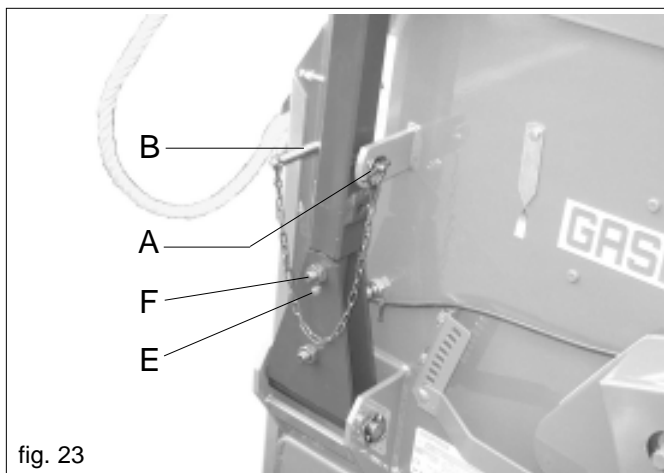
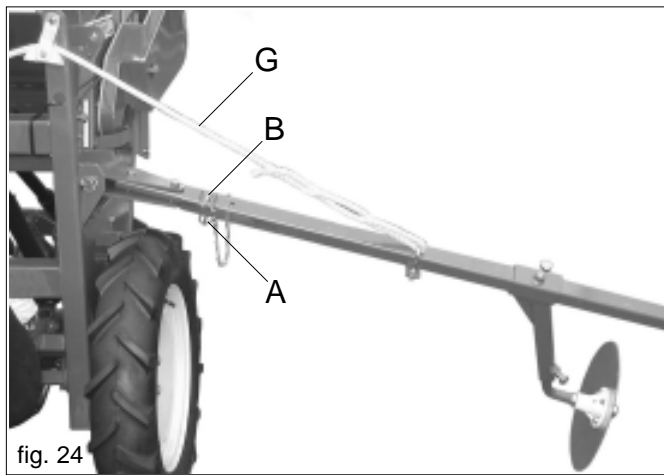

fig. 23
fig. 24
- 1) Unlatch the split pin (A) and remove the bolt (B) (Fig. 23).
- 2) Lower the row marker arm by rotating the left arm clockwise and the right arm counter-clockwise about 60° and lock it in position by placing the bolt (B) in the lower slot as shown in Figure 24.
The row marker arm can also be equipped with a safety device that protects it against hits from obstructions that could damage it. To do this, remove screw M12 (F) and replace it with an M5 screw (E) as shown in Figure 23. With the M5 screw in place, if an obstacle is encountered, the screw is sheared so the arm can rotate backwards without being damaged.
Adjust the length of the cables so that during work they stay taut (G Fig. 24). Lock the row marker disk arms in a vertical position during transport by using the pegs (Fig. 23 A, B).